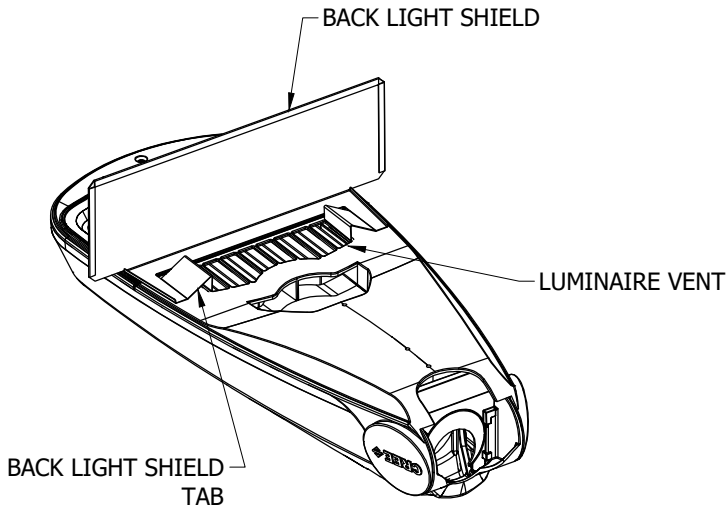

FIGURE 25
1. INSERT ONE OF THE TABS ON THE LIGHT SHIELD INTO THE FIRST SLOT IN THE LUMINAIRE VENT BY PRESSING THE TAB DOWN INTO THE SLOT. SEE FIGURES 25 AND 29 FOR BACK LIGHT OR CUL-DE-SAC LIGHT SHIELD VARIATIONS RESPECTIVELY.
2. INSERT THE OTHER LIGHT SHIELD TAB INTO THE LAST SLOT ON THE LUMINAIRE VENT BY PRESSING THE TAB DOWN INTO THE SLOT. SEE FIGURES 25 AND 29 FOR BACK LIGHT OR CUL-DE-SAC LIGHT SHIELD VARIATIONS RESPECTIVELY.